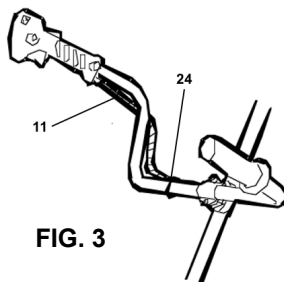

FIG. 3
4. Strain and fix the control cable (11) with the cable ties (24) (Fig. 3).